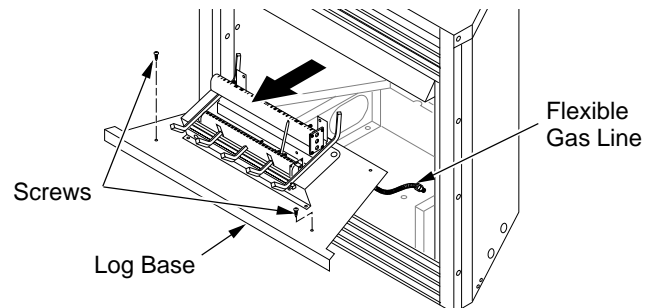

Figure 17 - Removing Log Base from Fireplace
- Remove screws that attach log base assembly to fireplace. Carefully lift up log base assembly and remove from fireplace, taking care to pull flexible gas line through the access holes (see Figure 17).